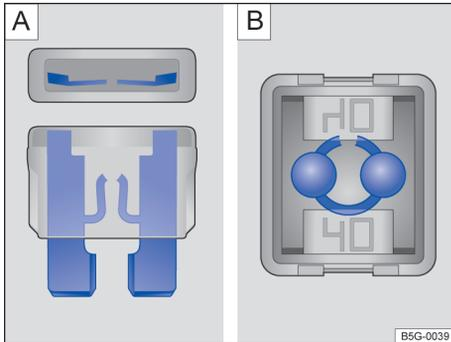

Fig. 161 Blown fuse: [A] flat fuse, [B] blocking fuse.
- A blown *blade fuse* (ATO®, MINI®) is detected from above or from the side through its transparent body by the melted metal strip → Fig. 161 [A].
- A blown *cartridge fuse* (JCASE®) is detected from above by the melted metal strip visible through the transparent housing → Fig. 161 [B].